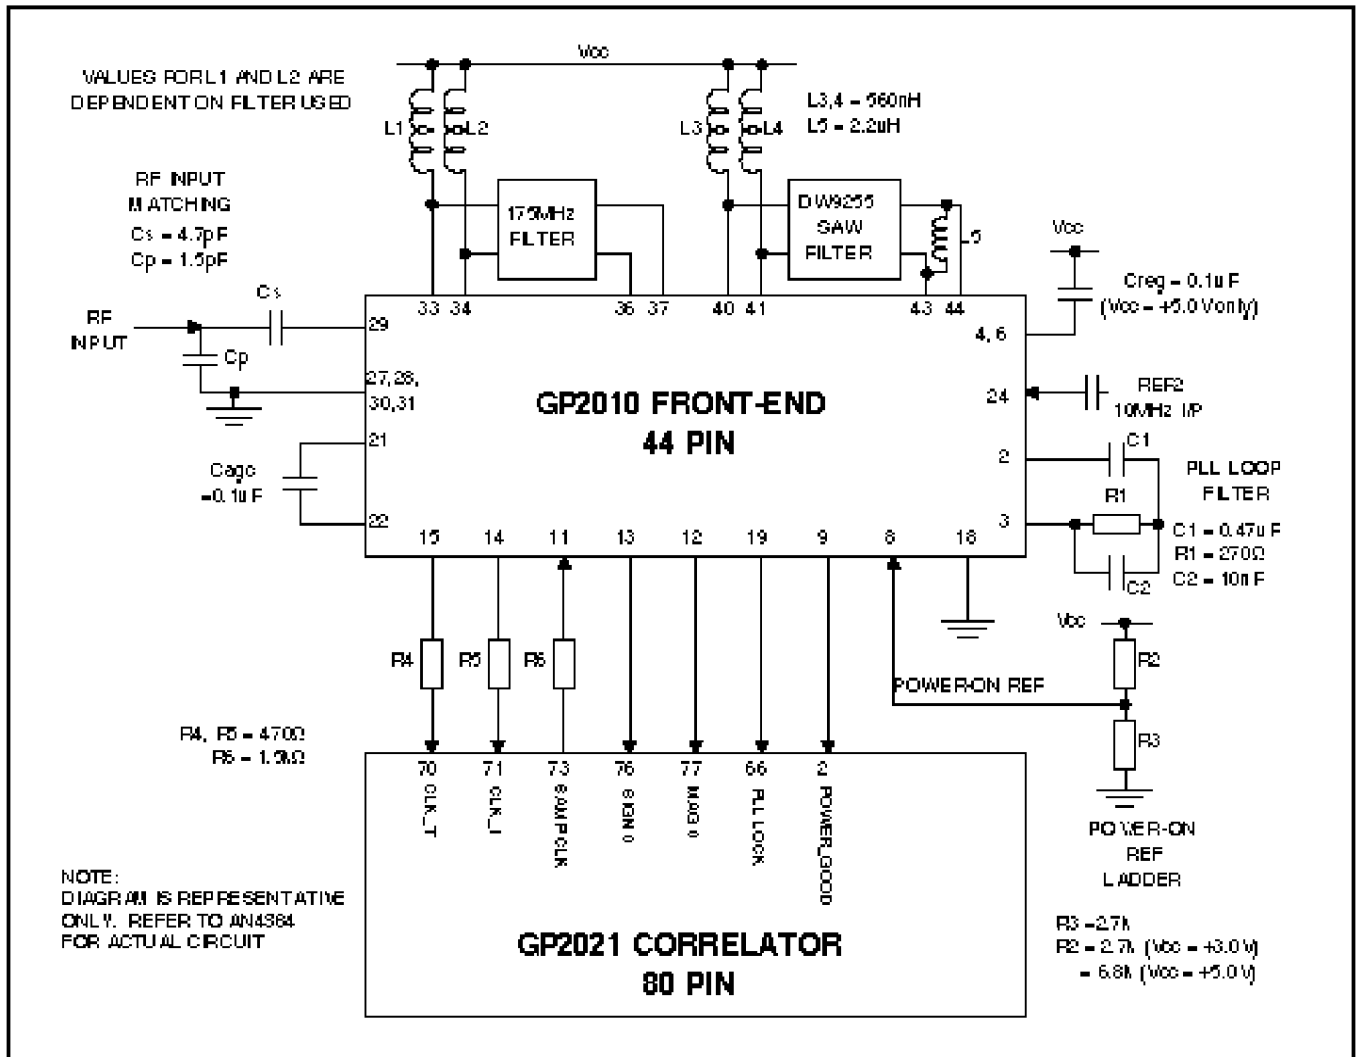

Fig. 4 GP2010 typical application
A typical application circuit is shown in figure 4 with the GP2010 front-end interfaced to the GP2021 12 channel correlator integrated circuit. The RF input has an unmatched input impedance (see page 4). The RF input matching components  $C_s$  and  $C_p$  should be mounted as close to the RF input as possible; also the Vee(RF) tracks must be kept as short as possible. A SAW may be used as a 175.42MHz filter, but this can be replaced by a simpler coupled-tuned LC filter if there is no critical out-of band jamming immunity requirement. The DC bias to mixer 1 is provided via inductors L1 and L2, which may form part of the 175.42MHz filter. The output of mixer 2 requires an external dc bias, achieved with inductors L3 and L4, which also serve to tune out the input capacitance of the DW9255 SAW filter. The output of the SAW is tuned with inductor L5. The AGC capacitor ( $C_{agc}$ ) determines the AGC time-constant. The PLL loop filter components are selected to give a PLL loop bandwidth of approx. 10kHz. The IF Output is normally used for test-purposes only, but is available to the user if required. Typically a low noise preamplifier (gain  $> +15dB$ ) is used, and may be located with a remote antenna.